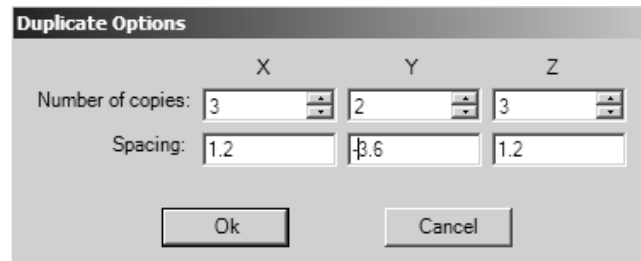

Figure L4.5 - Duplication of Planes
6. Duplicate the plane. Select the duplicate in grid option and give it the settings as shown in Figure L4.5.